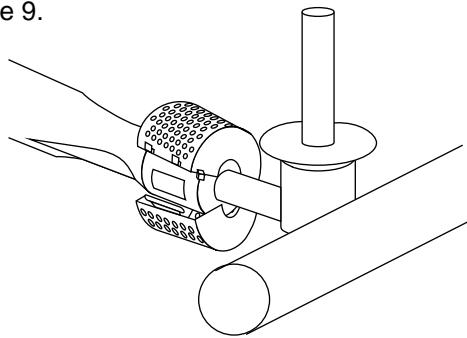

Figure 9
d) Unlatch the Spider Stopper Guards and remove. Figure 9.